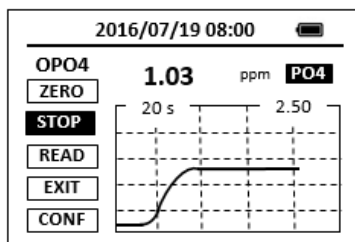

Figure 8. Concentration as a Function of Time
3. Place sample vial back into the sample vial compartment and press the timer button **TMR1**. The SP-800 will start to monitor the reaction between the reagent and the species you want to measure in the water sample. The concentration is shown in the chart as a function of time (Figure 8).
In order to show the concentration-time curve as shown in Figure 8 during the last timing step, The SP-800 must be zeroed using the prepared blank before the last timing step. Thus, the last timer button will not be selectable until the SP-800 has been zeroed using the prepared blank. Multi-timing step Hach® methods require zeroing the colorimeter using the prepared blank after the last timing step is completed. The SP-800 can optionally be re-zeroed using the prepared blank after the last timing step. The blank value measured will be subtracted from the concentration value measured at the end of the last timing step. Optionally, the **READ** button could be pressed to read the prepared sample again.
3. Place the prepared sample into the SP-800 sample vial compartment and press the **TMR2** button to start the second timer. The SP-800 will display the measured concentration as a function of time as shown in Figure 8.